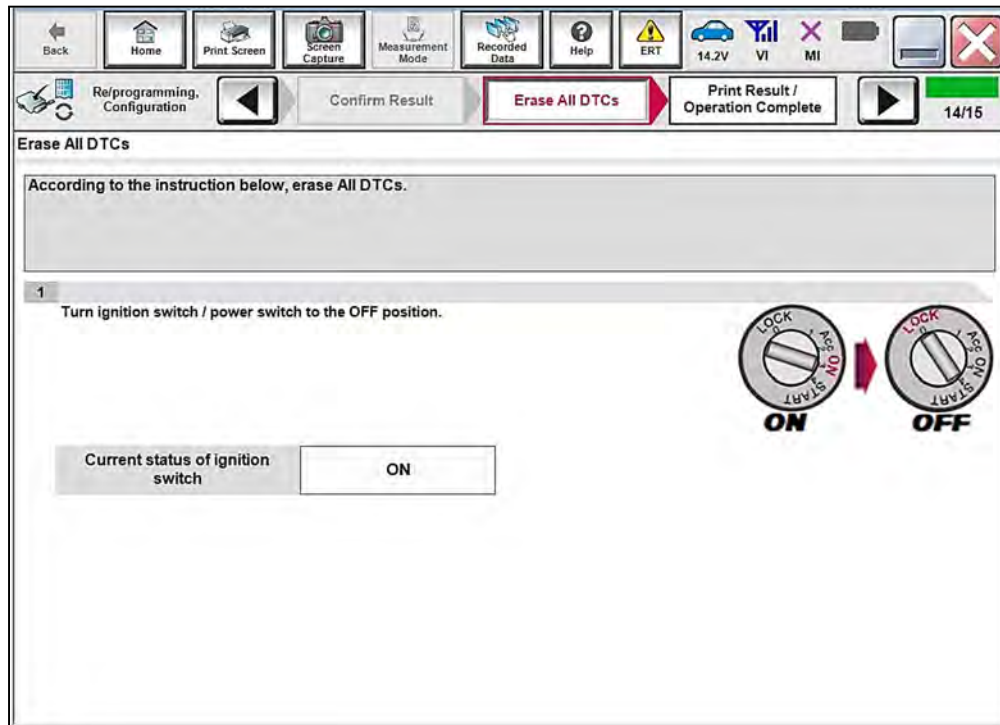
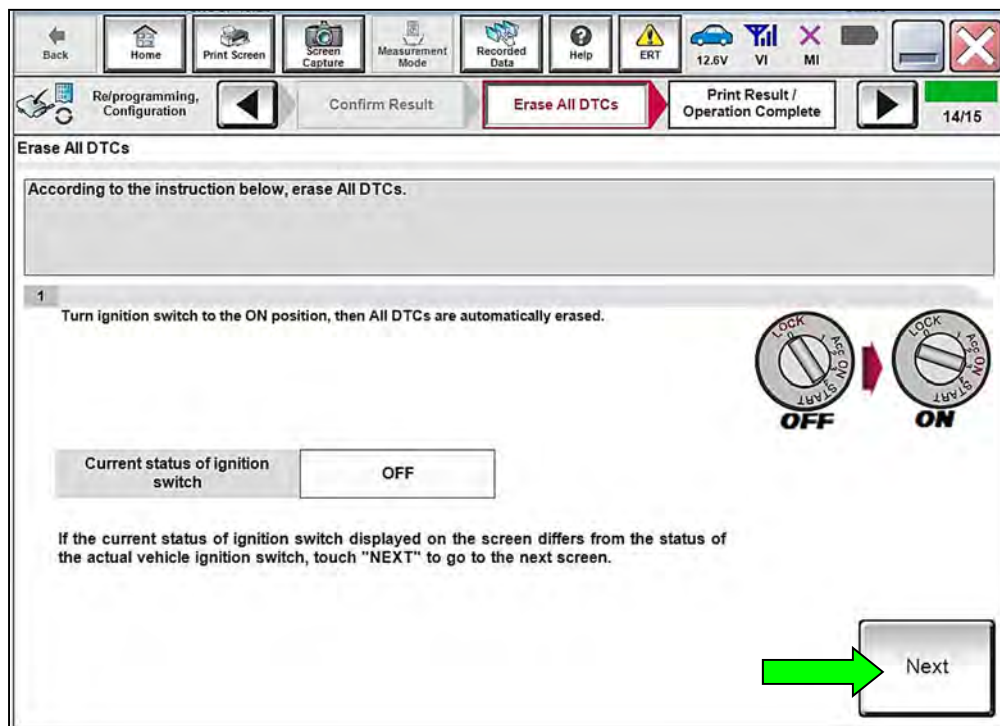

Figure 18
Figure 19
a. Follow the on-screen instructions as shown in Figure 18 and Figure 19.